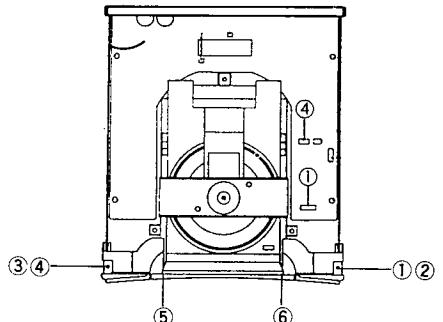

Fig. 4
1. Remove screws ① to ⑥ in Fig. 4.
⑤ PCB-⑮ (Control PCB) Removal.